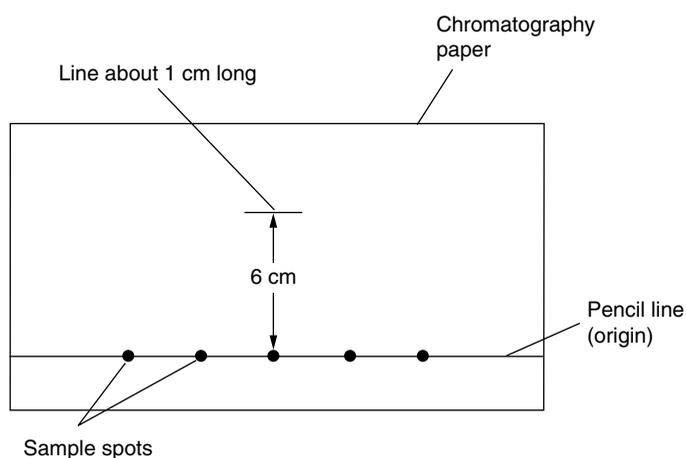

Figure 3.1
- Obtain a piece of chromatography paper 24 to 25 cm long by 11 to 14 cm wide. Draw a pencil line about 1 cm from the long edge of the paper. (You must use an ordinary pencil for this line. Ink or colored pencil often contains substances that may be soluble in the solvent, producing chromatograms of their own.) This line will indicate the origin (see Figure 3.1). Also draw a line about 1 cm long, 6 cm above the center of the penciled line.
- Using a different capillary tube for each solution (do not mix them!) transfer a drop of each solution listed below to the penciled line, as shown in Figure 3.1. Apply the spots evenly over the line, leaving a margin of about 3 cm from each short edge of the paper. Use a separate, clean capillary tube for each solution; or, if the solutions are to be